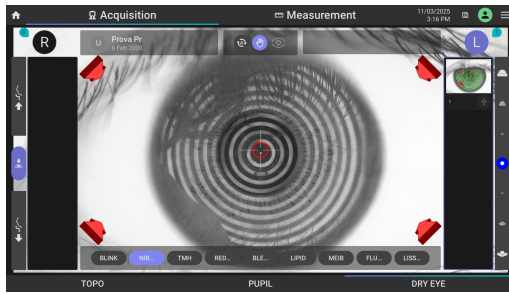

Figure 12.59: eye focusing
2. Focus the eye image (automatically or manually) until the green marks appear (Figures 12.59 and 12.60.)